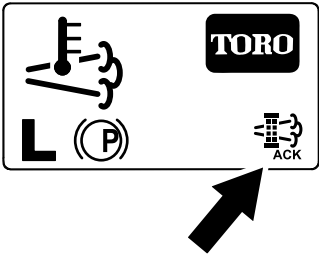

Figure 95
- The InfoCenter displays the home screen and the regeneration acknowledge icon (Figure 95) appears in the lower right corner of the screen as the regeneration processes.